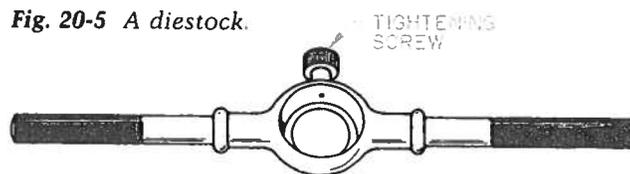

Fig. 20-5 A diestock.
A **diestock** is a tool for holding and turning a threading die (Fig. 20-5). Diestocks are made in several sizes to fit dies of different diameters.
4. Mount the die in the diestock. Secure it with the tightening screw (Fig. 20-5).